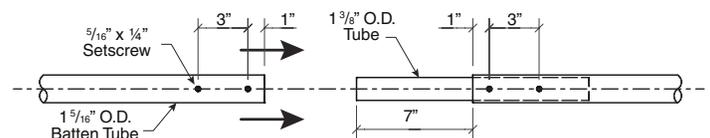

Figure 3
- ① Lay the curtain out with the top of the curtain close to the pre-assembled drive tube.
- ② Using a chalk line, mark a straight line along the length of the assembled 5" drive tube to be used as a guide when attaching the curtain.
- ③ Curtain fabric should be wider than the 5" drive tube. There should be a minimum of 3" of fabric extending beyond each end of the 5" drive tube. Trim the drive tube as necessary. Attach fabric so equal amounts of fabric overhang each end. Do not allow drive tube to extend onto the heat sealed edging of curtain fabric.
- ④ Attach the square raw top edge of curtain fabric to the 5" drive tube using adhesive strip. Attach fabric so that rougher side—where the scrim is most visible—is against the drive tube. The smoothest side should be on the outside of tube as fabric is rolled up. Make sure the curtain is flat, square and straight. Fabric must be stretched tight as it is attached to the drive tube.
- ⑤ Slide 1 5/8" top and bottom batten tubes into pocket one section at a time, assembling as you go. Use 1 3/8" OD x 14" tube to connect section of batten tube. Splice should be installed so equal portions are inside tube that is being connected (see Fig. 3). Rotate batten to align the pre-drilled and tapped holes in batten. Secure with 5/16" x 1/4" set screws.
- ⑥ Stretch bottom of curtain taut and trim batten tube so that it is approximately 3" shorter than curtain. Make sure tube ends are free of sharp edges and close bottom pocket at each end using lacing cord, zip ties or short bolts (by installer) through grommets.
- ⑦ Roll all the curtain fabric tightly onto 5" drive tube.
- ⑧ Raise the curtain to overhead attachment point using installer supplied temporary winch or block and tackle. Use caution to not damage curtain fabric with ropes, cables, etc. during lifting.
- ⑨ Position 5" drive tube with curtain wrapped around it into the cradle assemblies (see Fig. 3). Prior to removing from winch or block and tackles used to lift drive tube, lower all front rollers and reassemble bolts, washers and locknuts in the lowest hole on front top of cradle assemblies.